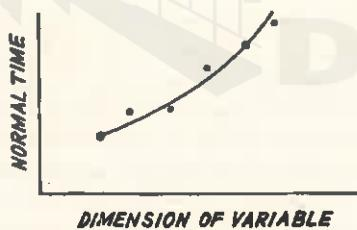

Fig. 9.16. Dimension of Variable.
(4) Summarize time studies using a summary form.
(5) Separate constant elements from variable elements.
(6) Using statistical methods calculate the average standard time for constant elements.
(7) Explore the job characteristics leading to variability in elements. A graph can be plotted between normal time value of each element and the dimension of variable (say size of item) and a smooth curve can be fitted (Fig. 9.16).